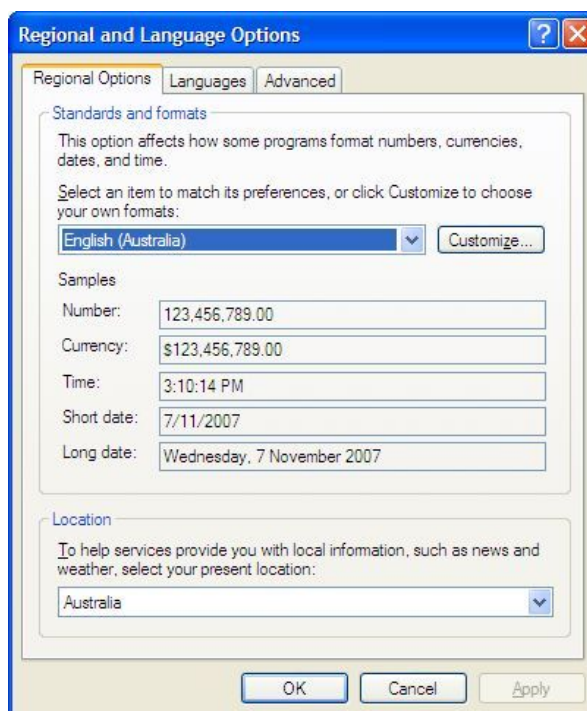

Figure 37 Regional Settings.
9. Make sure that all the boxes as shown in Figure 37 are checked.